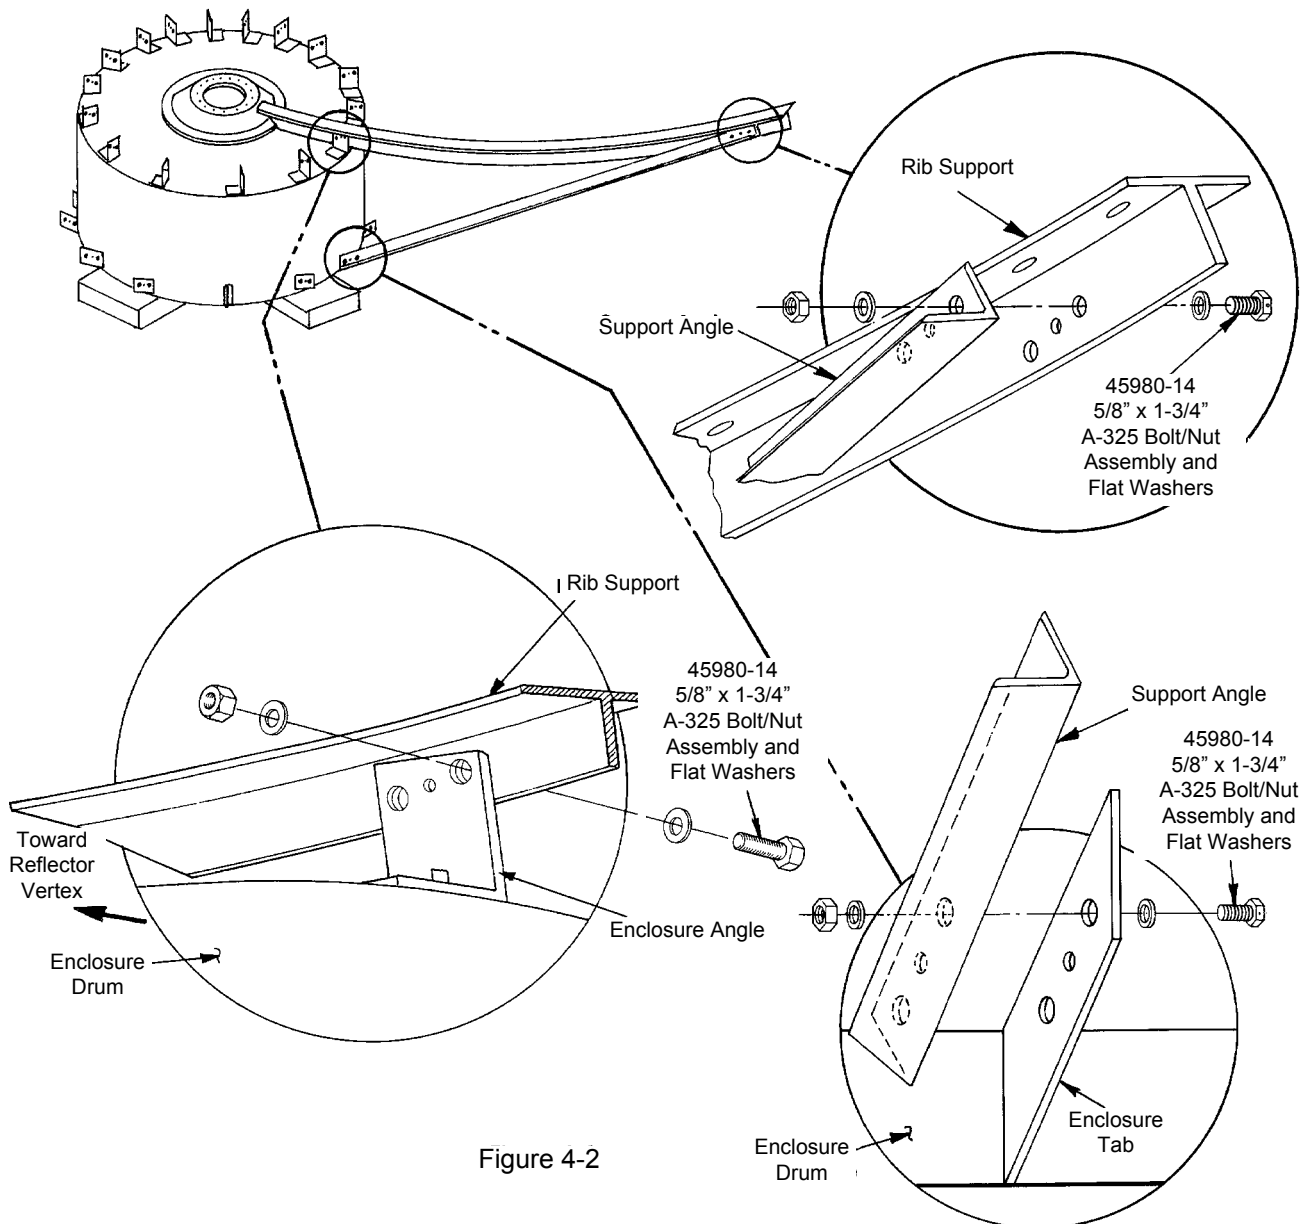

Figure 4-2
4.2 Refer to Figure 4-2. Position matchmarked backstructure support angle and rib supports opposite corresponding matchmarked drum enclosure angles and tabs. Starting with any rib support/support angle pair, attach clipped end of backstructure support angle to left side of lower enclosure tab using one A-325 bolt/nut assembly and flat washers as shown. **Note: A-325 hardware should be installed loosely. Ensure**